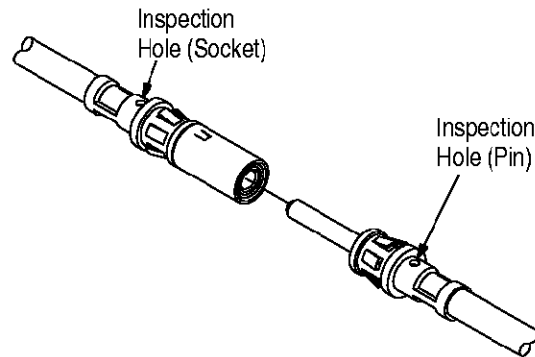

Figure 5
7. Allow the tool handles to open fully and remove the crimped contact from the tool. Check to be sure the contact is properly crimped – the wire must be visible through the inspection hole. See Figure 5.